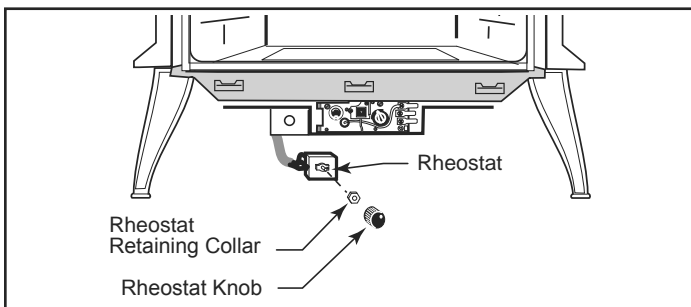

Figure 18 - Attach the fan rheostat.
4. The rheostat control switch attaches to the left side of the valve bracket at the front of the stove. (Figure 18)